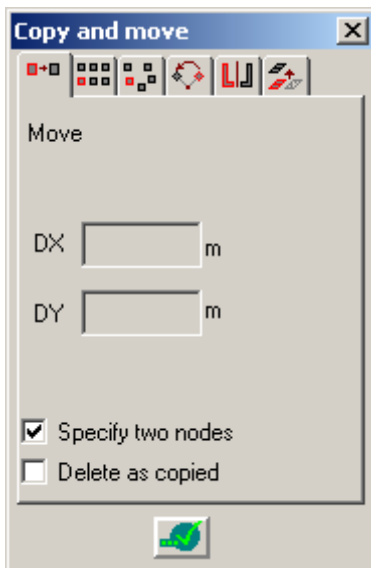

Figure 1.5.6 **Copy and move** dialog box (**Move** tab)
- click the **Move** tab  (see Fig.1.5.6);